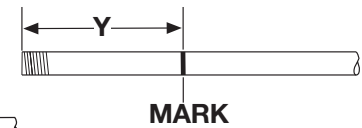

Figure 21
2. Measure Y distance from the end of the conduit and place the bending mark here. (Fig.21)